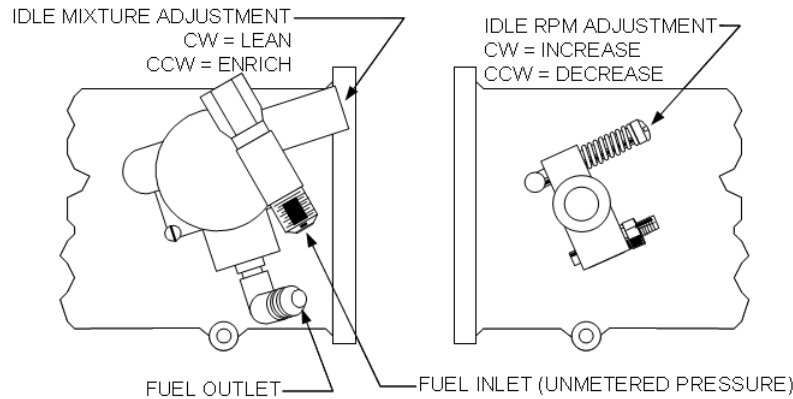

Figure 6-4. Throttle Body Adjustments
2. Locate the IDLE speed stop screw (Figure 6-4) on the throttle body and turn it counter-clockwise two complete turns. During the operational check, IDLE RPM will be controlled manually using the cockpit throttle control.